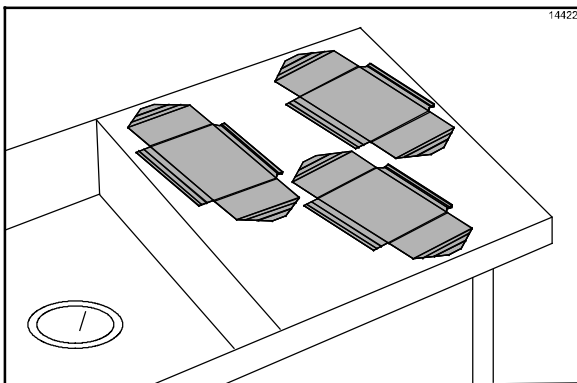

Figure 81
9. Set the release sheets aside on a clean, flat surface until further cleaning is performed. **Do not** fold, crease, or place them on sharp objects. (See Figure 81.)